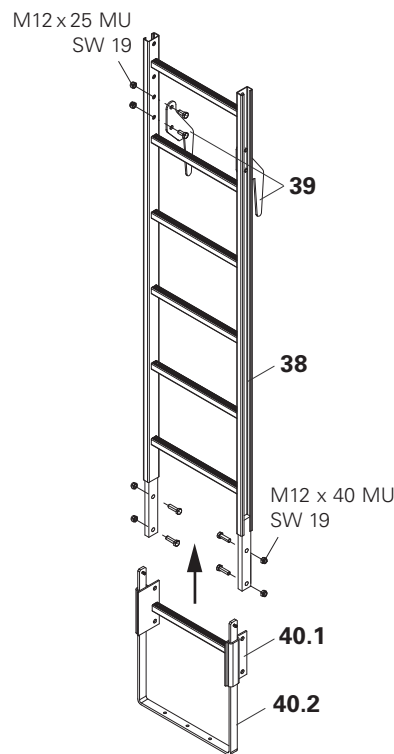

Fig. A2.20
- Fix Ladder Hook (39) to Ladder 180/6 (38) at the top using Bolts and Nuts M12 x 25. (Fig. A2.20)